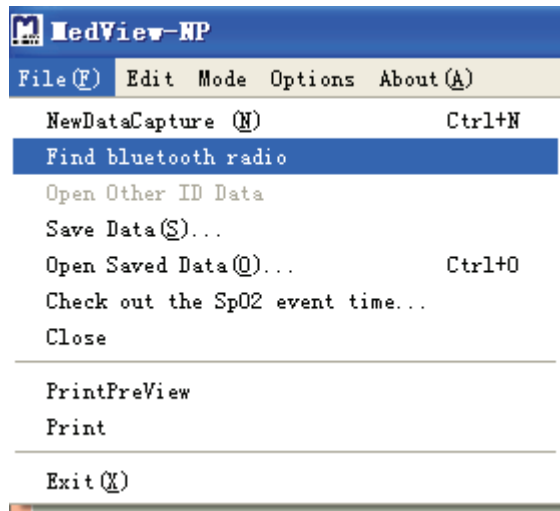

Figure 3-10
3.2.2 Click “Find Bluetooth® radio” item in the interface as shown in Figure 3-10. The following figure will be available. There are three methods for searching Bluetooth® devices,